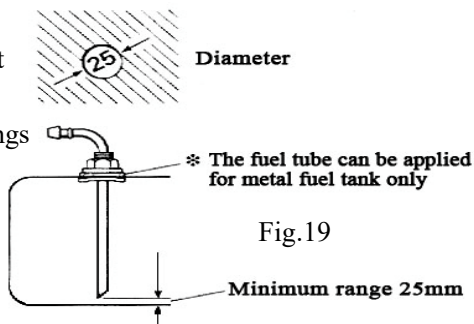

Fig.19
4.4.6 Installation of Fuel Sucking Device (Fig.19)